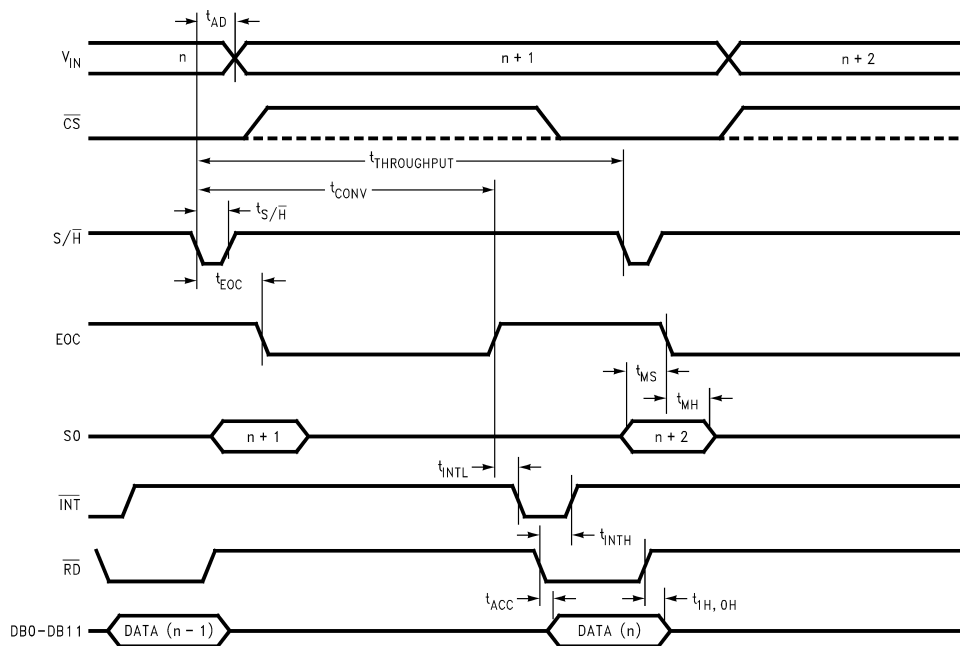
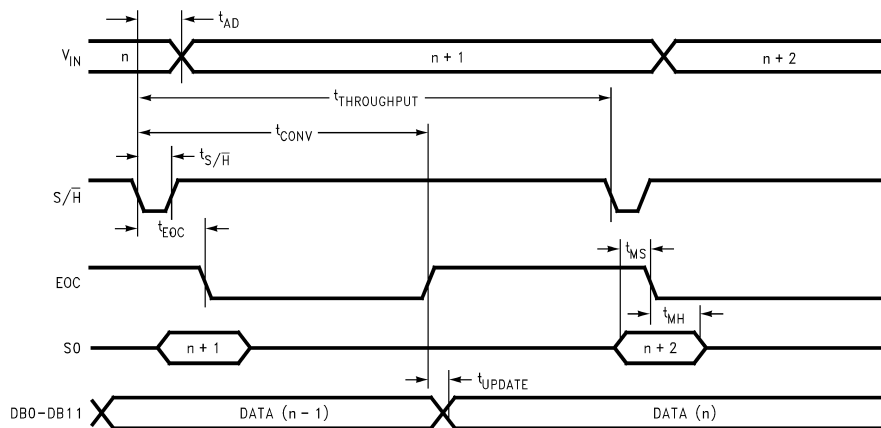

Figure 21. Interrupt Interface Timing (MODE = 0, OE = 1)
Figure 22. High Speed Interface Timing (MODE = 0, OE = 1, CS = 0, RD = 0)
- INT** This is the active low Interrupt output. When using the Interrupt Interface Mode (Figure 21), this output goes low when a conversion has been completed and indicates that the conversion result is available in the output latches. This output is always high when \overline{RD} is held low (Figure 22).
The ADC12762 has two interface modes: An interrupt/read mode and a high speed mode. Figure 21 and Figure 22 show the timing diagrams for these interfaces.
As shown in Figure 21, the falling edge of $\overline{S/H}$ holds the input voltage and initiates a conversion. At the end of the conversion, the EOC output goes high and the \overline{INT} output goes low, indicating that the conversion results are latched and may be read by pulling \overline{RD} low. The falling edge of \overline{RD} resets the \overline{INT} line. Note that \overline{CS} must be low to enable $\overline{S/H}$ or \overline{RD} .
The Interrupt interface works well at lower speeds, but few microprocessors could keep up with the 1 μ s interrupts that would be generated if the ADC12762 was running at full speed. The most efficient interface is shown in Figure 22. Here the output data is always present on the databus, and the INT to RD delay is eliminated.
The ADC12762 has an input multiplexer that is controlled by the logic level on pin S0 when EOC goes low, as shown in Figure 21 and Figure 22. Multiplexer setup and hold times with respect to the S/H input can be determined by these two equations: